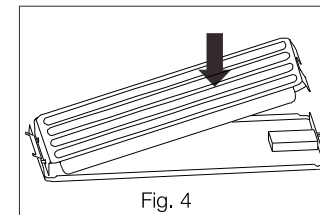
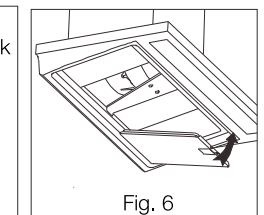

Fig. 4
Fig. 6
1. Installation of oil filter: Place the inner oil filter in the outer oil filter (see Fig. 4). Fit the oil filter hook in the gap closest to the wall between the inner cover and the chassis. Press your finger against the stainless steel spring catch and slide it into the oil filter. Flip up the oil filter and align the surface with the inner cover (see Fig. 6). Release the spring catch. The oil filter is secured. Repeat the same procedure to install the other oil filter. The oil filters need not be installed in any specific order.